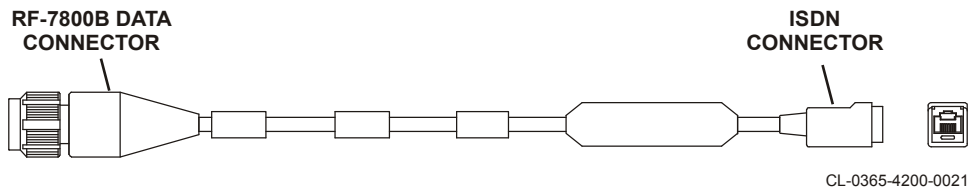

Figure 3-6. Standalone ISDN Cable, 12043-0835-A010 (Optional)
- See Figure 3-6 for Standalone ISDN Cable, 12043-0835-A010.